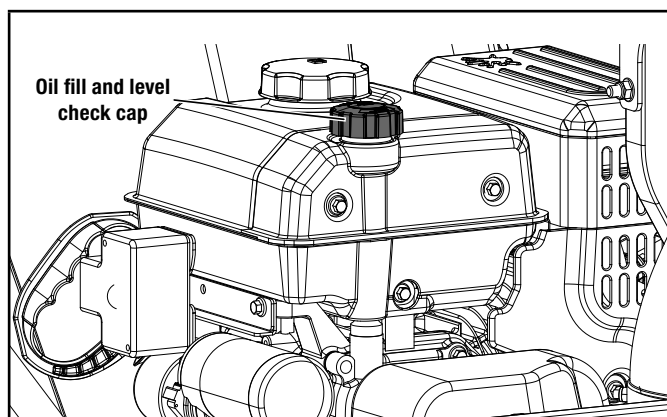

Figure 12A
- Remove the oil cap/dipstick and wipe it clean (Fig. 12A).